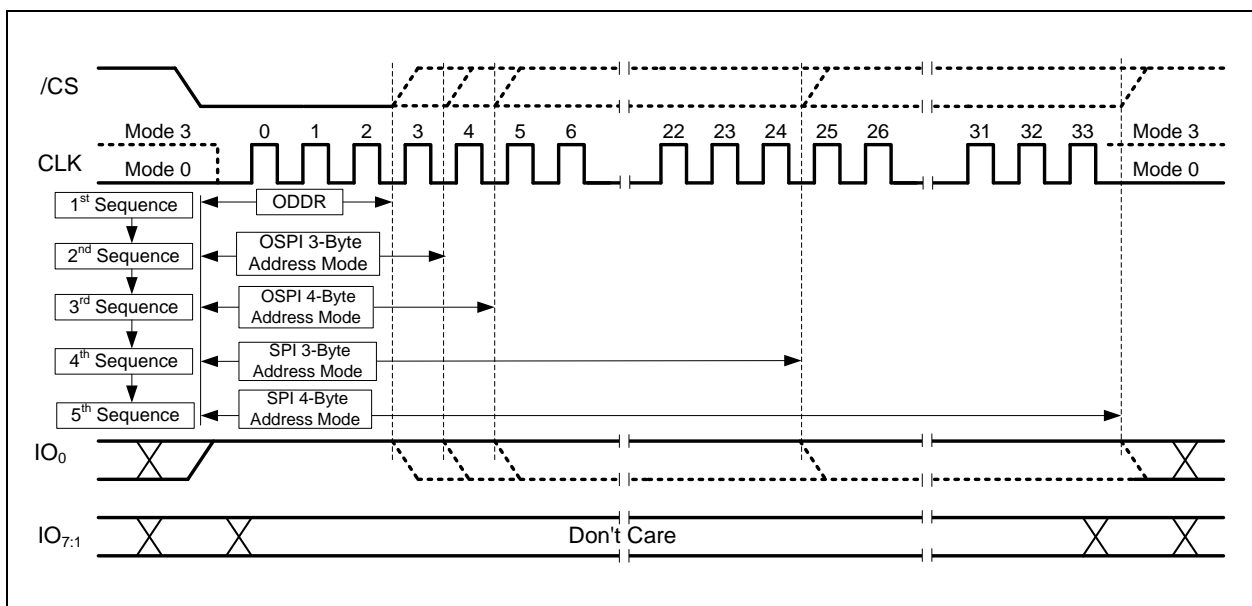

Figure 4-4. Exit XIP Sequence
The above sequence is illustrated in Figure 4-4 below. This sequence will only exit indeterminate XIP mode by setting XMB to '1'. It does not reset the device or interrupt an ongoing internal Program/Erase operation. After terminating XIP mode, the host controller should regain control of the interface and perform the required operations either by doing further interface recovery, power loss recovery, software reset sequence or hardware reset for full device recovery.
- The first step is to execute the Exit XIP Recovery Sequence as detailed on Section 6.5.4 and Figure 4-4 (on the previous section). This is a five step method in exiting XIP mode by driving IO0 to '1' until XIP Mode Bit (XMB) is passed on each of the supported XIP IO Mode Configurations (ODDR, OSPI with 3-Byte or 4-Byte Address, and SPI with 3-Byte or 4-Byte Address).
- The first step is to execute the Exit XIP Recovery Sequence as detailed in Section 6.5.4 and Figure 4-4 (on the previous section). This is a five step method used to exit XIP mode by driving IO0 to '1' until XIP Mode Bit (XMb) is passed on each of the supported XIP IO Mode Configurations (ODDR, OSPI with 3-Byte or 4-Byte Address, and SPI with 3-Byte or 4-Byte Address).